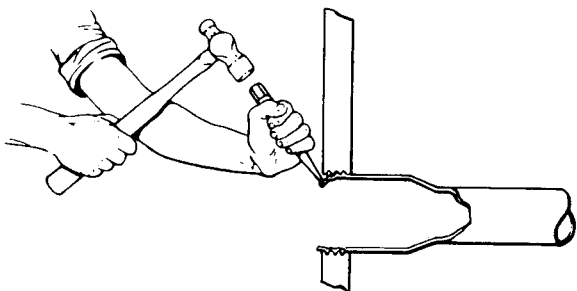

FIG. 13 – STEP (2) IN TUBE REMOVAL
2. The tubes to be replaced are loosened in the tube sheet at one end only by first providing a start with a caulking chisel. The chisel is held at about a 45 degree angle and tapped lightly with a hammer to provide the "start". See Figure 13.